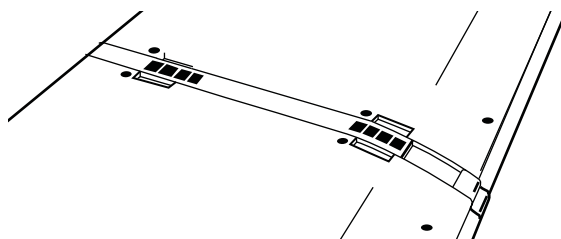

Figure 2-5 MC Mix and MC Control attached by connecting at side panel
4. Slide the connecting part of the MC Control into MC Mix to attach them together (Figure 2-5).